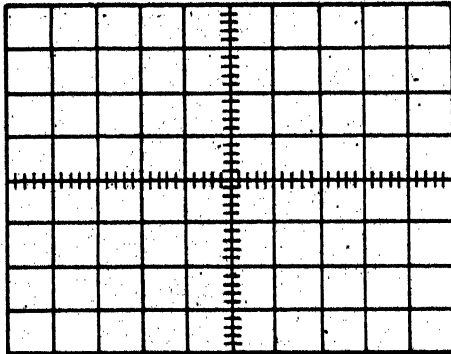

Figure 1
10. Connect the 10X probe to pin 2 of PC201-5. Observe and record in Figure 1 the waveform observed.